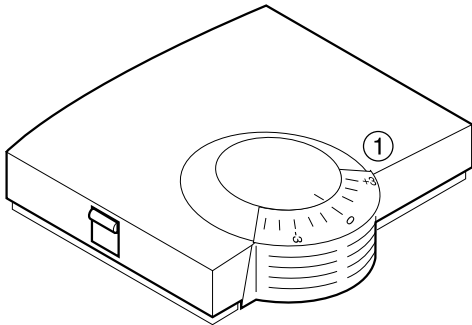

Fig. 5: HCW 82
- ▶ Select the desired change of the preset temperature at the adjustment dial (1) (see Fig. 5) (settings on the scale in  $^{\circ}\text{C}$ ).
- ▶ Check whether the adjustment dial is in the position shown in Fig. 5.